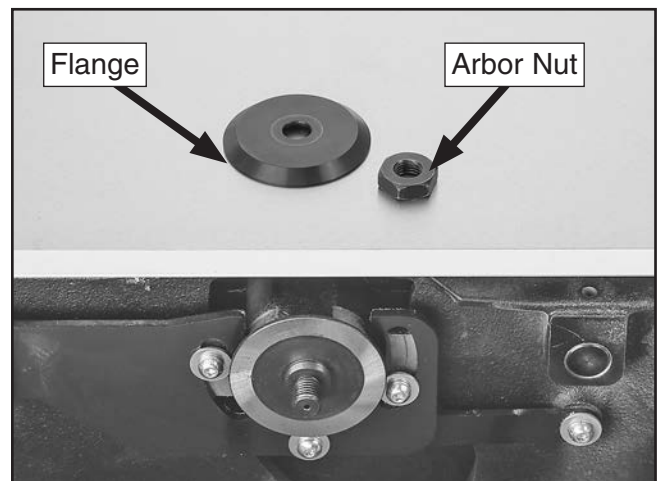

Figure 32. Flange and arbor nut removed from arbor.
- Continue loosening arbor nut clockwise until blade flange can be removed (see **Figure 32**).